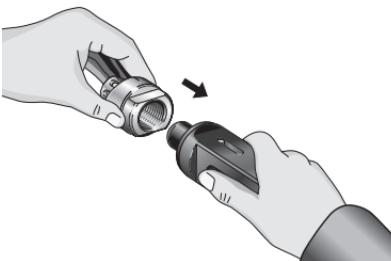

**Figure 7 – Removing Residual Chips**
9. Remove vacuum hose from drill guide and use vacuum to remove any residual chips from the guide tube and pipe. See *Figure 7*.